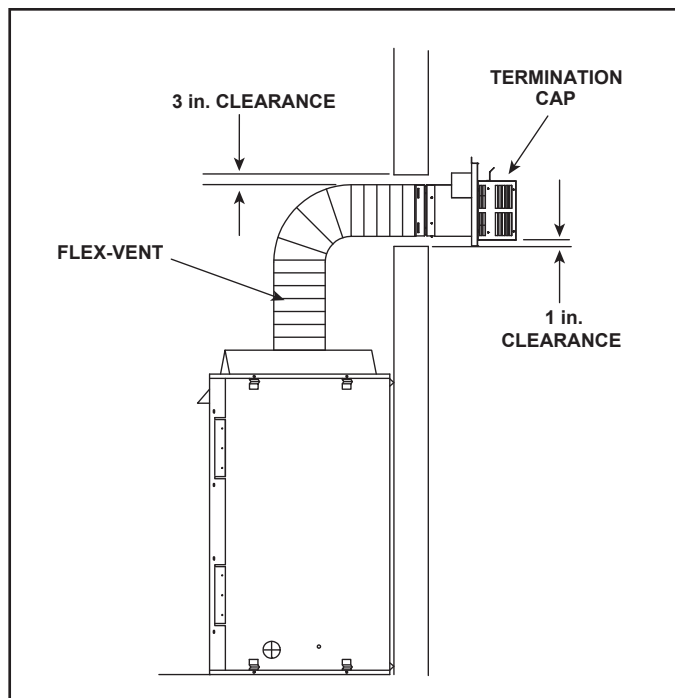

Figure 4.10 Flex Vent Pipe - Generic Fireplace Shown
A support is required at each change in venting direction, and in any location where it is necessary to maintain the necessary clearance to combustibles. A simple “up and out” installation (Figure 4.10) requires only enough support to maintain the necessary clearance to combustibles. However, the vent attachment point and the firestop location are considered to be supports.
**Note:** There MUST be a 25% reduction in total H when using SLP-FLEX Series (6-5/8 inch) vent except when using the simple up and out installation. See Figure 4.10.